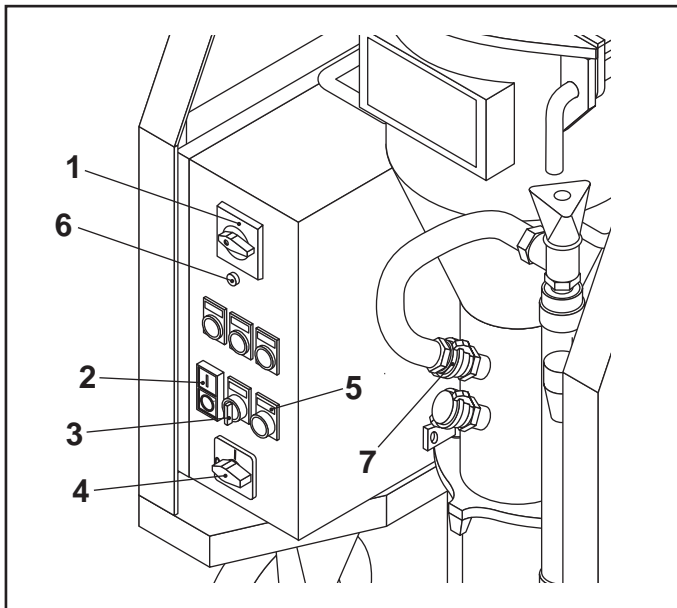

FIG.37
Before disconnecting the segments of the piping line, make sure that the master switch (FIG.37-REF.1) is in position 0 (zero) and that the flow flange manometer indicates nil pressure: on trampling the piping must go limp. If the manometer should not indicate a pressure at nil, the line must be depressurised before it is disassembled.
- Stop GIOTTO by positioning the switch (FIG.37-REF.1) in position 0.
- Disconnect the water pipe (FIG.37-REF.7) from the mixing chamber.
- Holding the button down (FIG.37-REF.6), position the switch (FIG.37-REF.1) in the position opposite to pumping.
- Stop GIOTTO (position the switch (FIG.37-REF.1) in position 0) when the pressure on the flow flange manometer indicates zero bar.
- Holding the button down (FIG.37-REF.2), re-position the switch (FIG.37-REF.1) in the pumping position.